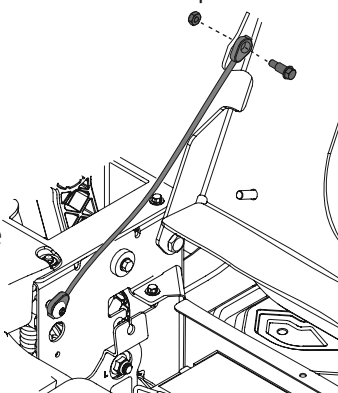

Figure 18
3. Install the detached end of seat tether cable onto the seat pan with the hardware previously removed as shown in Figure 18: